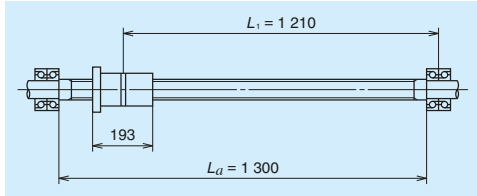

Fig. 17.4 Examination of buckling load
Calculate the buckling load for conditions shown in Fig. 17.4 with  $P$  of 10 354 (N) and  $L_1$  of 1 210 (mm).